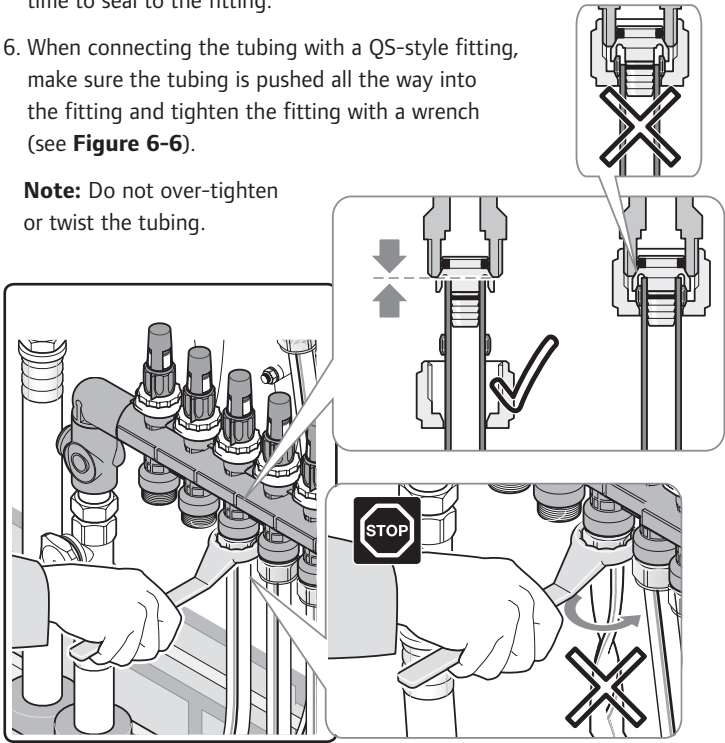

Figure 6-6: Push Tubing Into Fitting and Tighten with Wrench
- When connecting the tubing with a QS-style fitting, make sure the tubing is pushed all the way into the fitting and tighten the fitting with a wrench (see **Figure 6-6**).